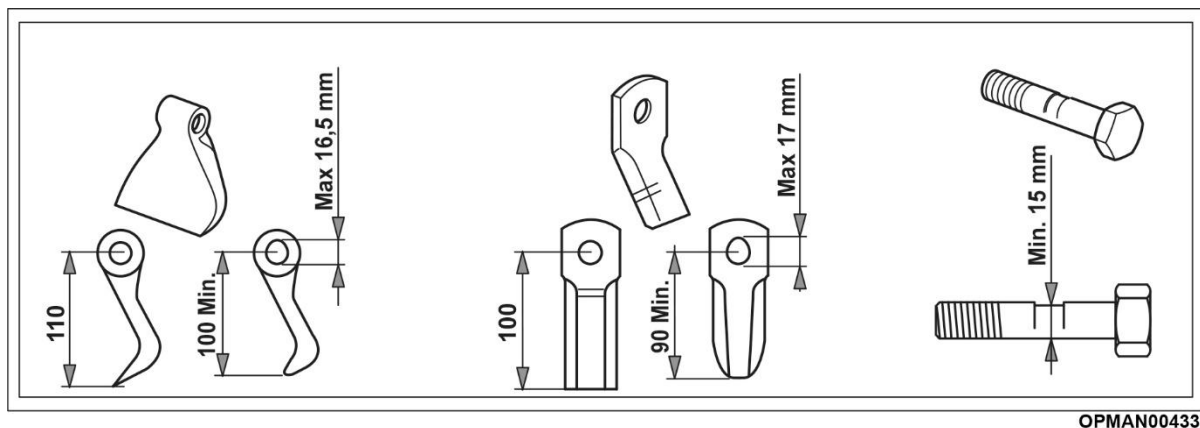

Figure 15
For worn flails and bolts (see Figure 15):
- The special bolts must be replaced to fasten the flails if visibly damaged, bent or ovalized to the limit (see Figure 15).